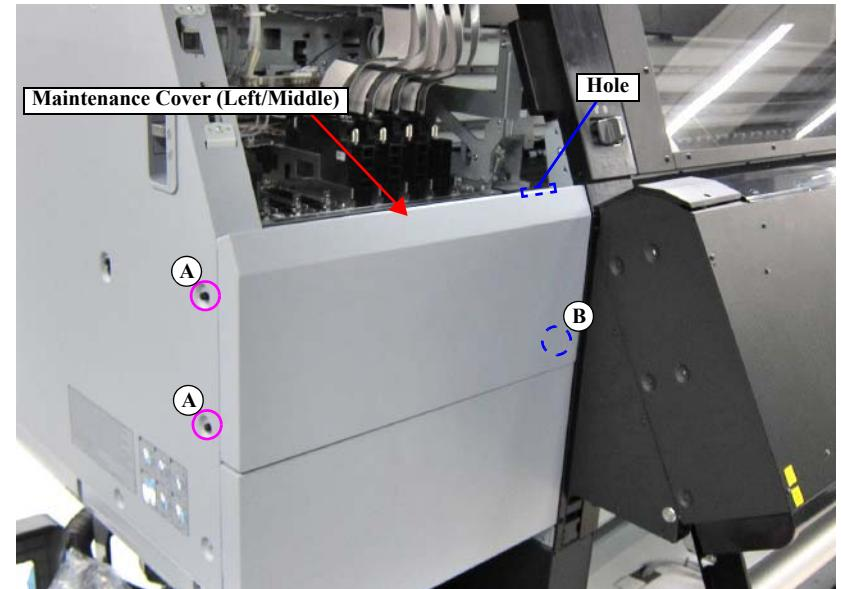

Figure 3-21.
- When removing screw B, remove it by inserting a screwdriver into the hole indicated in Figure 3-21.